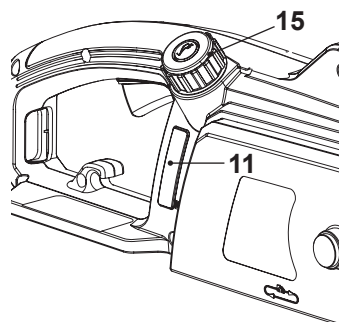

Fig. 13
- > Check the oil level window (11) prior to start-up and regularly during operation. Refill oil when the oil level is lower than "MIN" marking (Fig. 13).
- > Wipe up spilled lubricant with a soft cloth and refit the tank cap (15).